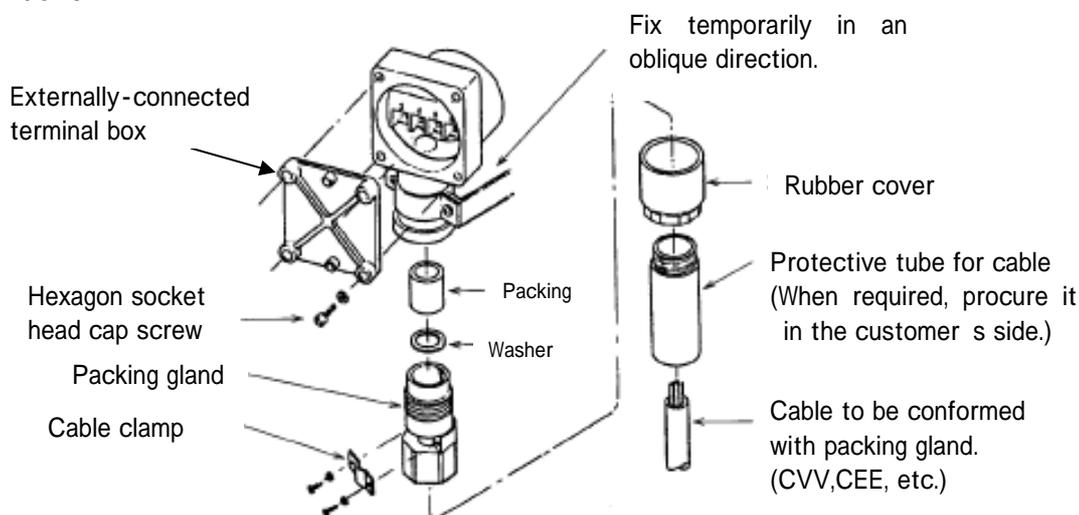

Fig. 3
(2)Guide the cable through the rubber cover packing gland washer packing in this order as shown in Fig. 3.